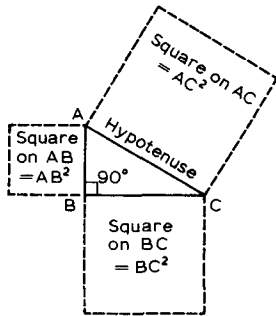

Fig. 1.74
(1) In a right-angled triangle the side which lies opposite the right-angle is called the *hypotenuse*. This side is the longest side of a right-angled triangle.
(2) The square on the hypotenuse is equal to the sum of the squares on the other two sides. This statement is known as the theorem of Pythagoras. As shown in Fig. 1.74: